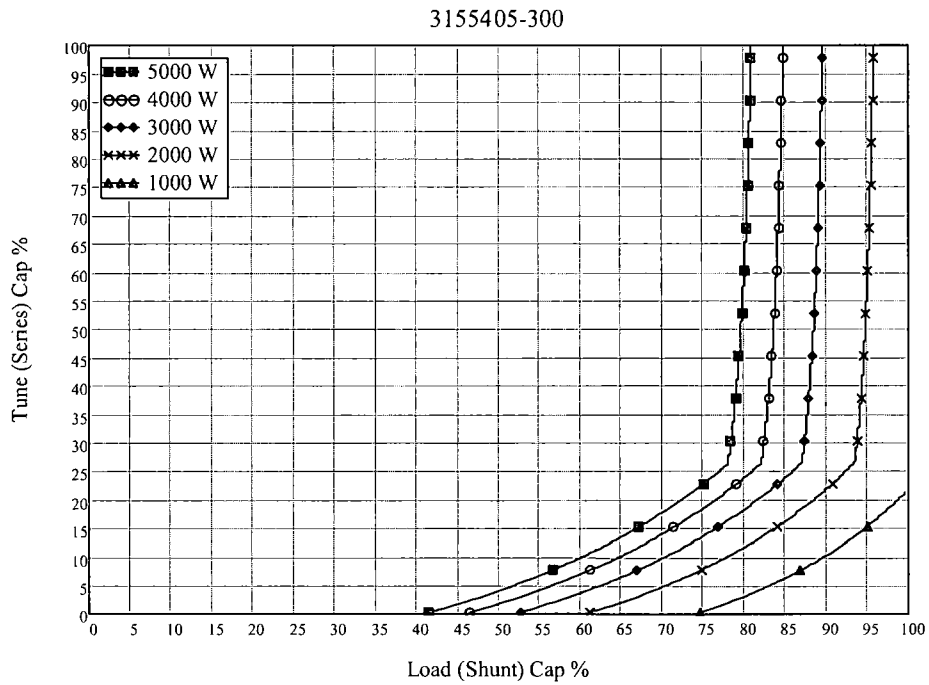

Figure 4 – Safe Operating Area by capacitor position
8.0 Figures and Drawings (fig 4): 3155405-300: Power Derating by capacitor position